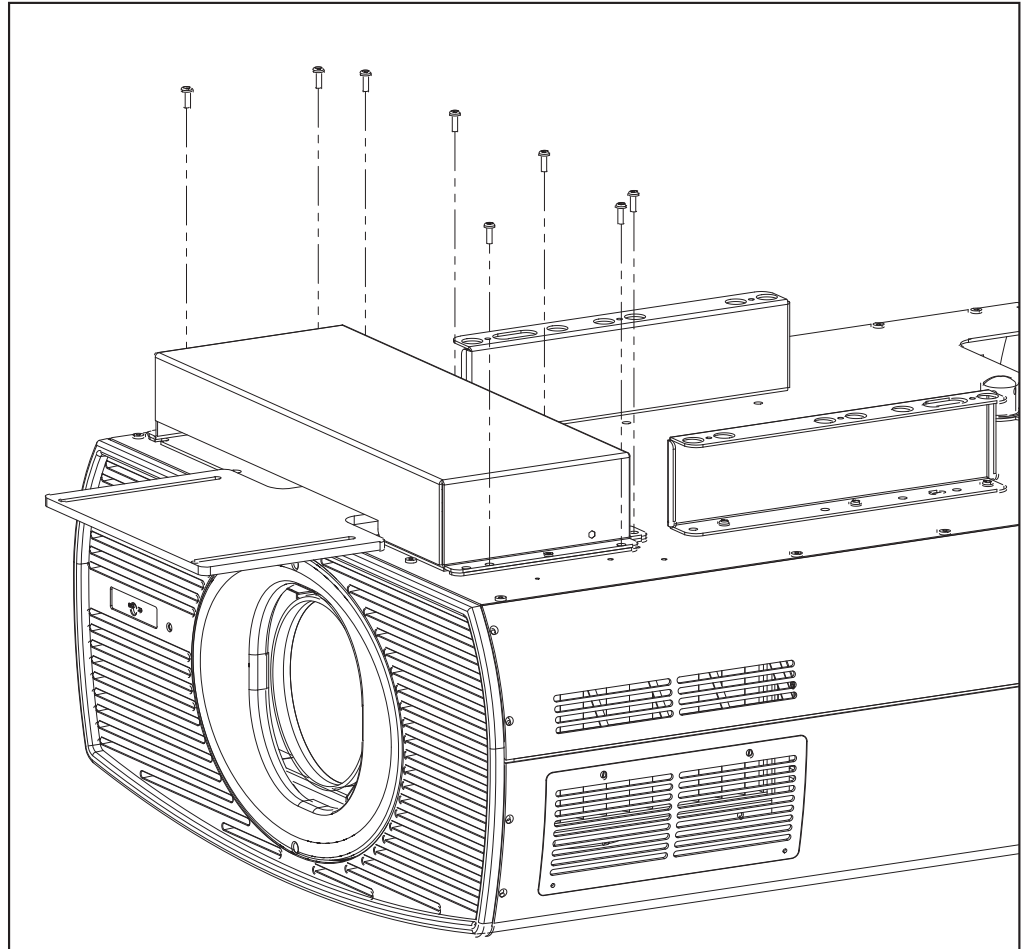

**Figure 3-8. AutoScope Lens Motor Installation**
**Install Lens Motor:** Position the AutoScope Lens Motor (item #1) as shown in Figure 3-8. Line up the mounting holes on the lens motor housing with those on the underside of the projector. Secure the motor to the projector with the eight (8) remaining M6 x 12mm Pan-Head Phillips screws (item #2).